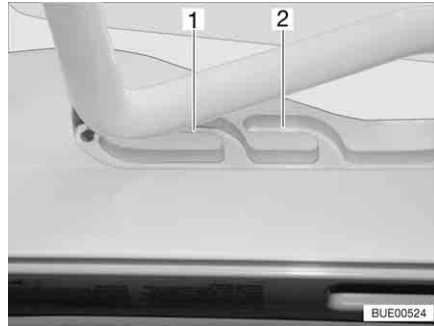
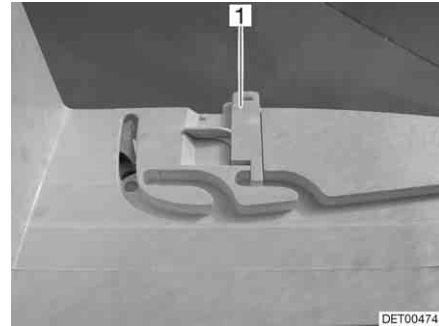

Fig. 112 Heki skylight in ventilation position
Fig. 113 Ventilation position locking mechanism
The Heki skylight can be put in two ventilation positions: Bad weather position (Fig. 112,1) and central position (Fig. 112,2). Depending on the model, the skylight can be locked in the central position with both left and right latches (Fig. 113,1) on the skylight frame.
- Push the bar slightly upwards and into the selected guide (Fig. 112,1 or 2) and lock if necessary.